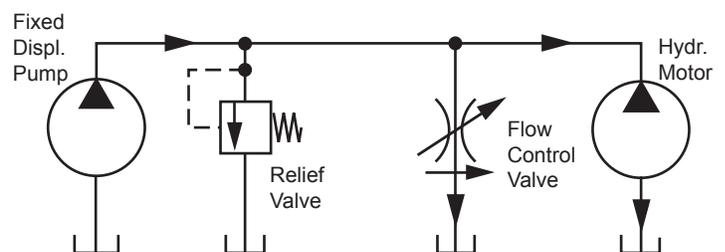
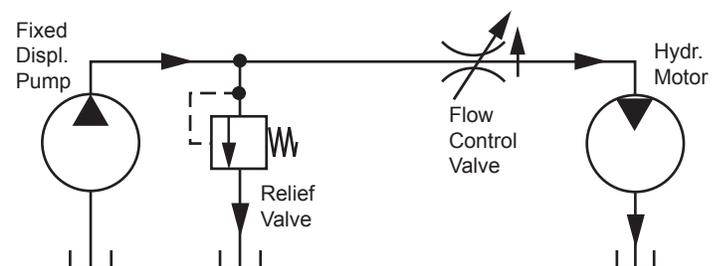
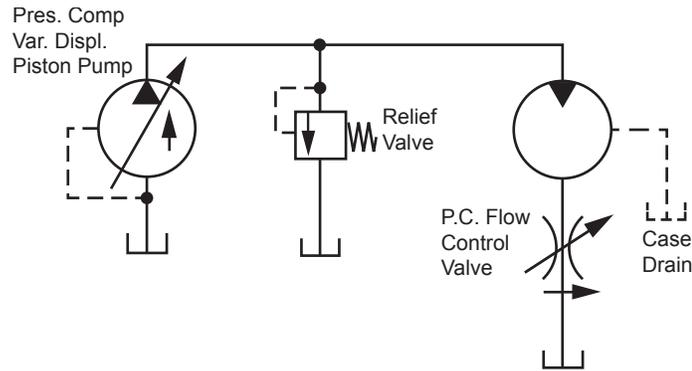

Figure 1. By-pass method of motor speed control.
Figure 2. Series meter-in method of motor speed control.
Figure 4. Series meter-out speed control gives best speed regulation.
Figure 1. The flow control valve is placed to divert the unwanted oil to tank. While this is usually the simplest method of speed control, and tends to produce less heating in the oil than the other methods described, the speed regulation of the total circuit is very poor because slippage in both the pump and the motor contribute to poor regulation. This method should be used only on applications where a very limited range of speed is needed, no greater than a 2:1 range.
Figure 2. When the flow control valve is placed in series between pump and motor, the effect of slippage in the pump is eliminated, leaving motor slippage as the main factor which limits the range of adjustable speed. Overall speed regulation is approximately equal to the regulation of the motor itself. Twice the speed range can be covered successfully as with the by-pass method of **Figure 1**, or roughly about a 4:1 speed range for most applications.
Although oil heating tends to be somewhat greater than in **Figure 1**, several branch motor circuits can be operated from one pump.
Speed regulation is about equal to the series circuit of **Figure 2**, and the oil heating is no more than the by-pass circuit of **Figure 1**, since surplus oil, not needed by the motor, is allowed to discharge to tank through the 3rd port of the flow control valve at a pressure only slightly greater than actual load pressure, instead of at relief valve pressure.
Like the by-pass method of **Figure 1**, only one branch motor circuit can be operated from the pump.
Figure 4. This is the only method which permits a full range of adjustment of motor speed from near zero RPM up to maximum rated motor speed, and which holds speed constant at the selected RPM from zero load up to full load. But this circuit can only be used with selected components.
4. Place the speed control valve in series between the pump and the motor, as in **Figures 2 or 3**, or in series with the motor outlet as in **Figure 4** if a piston motor is used.